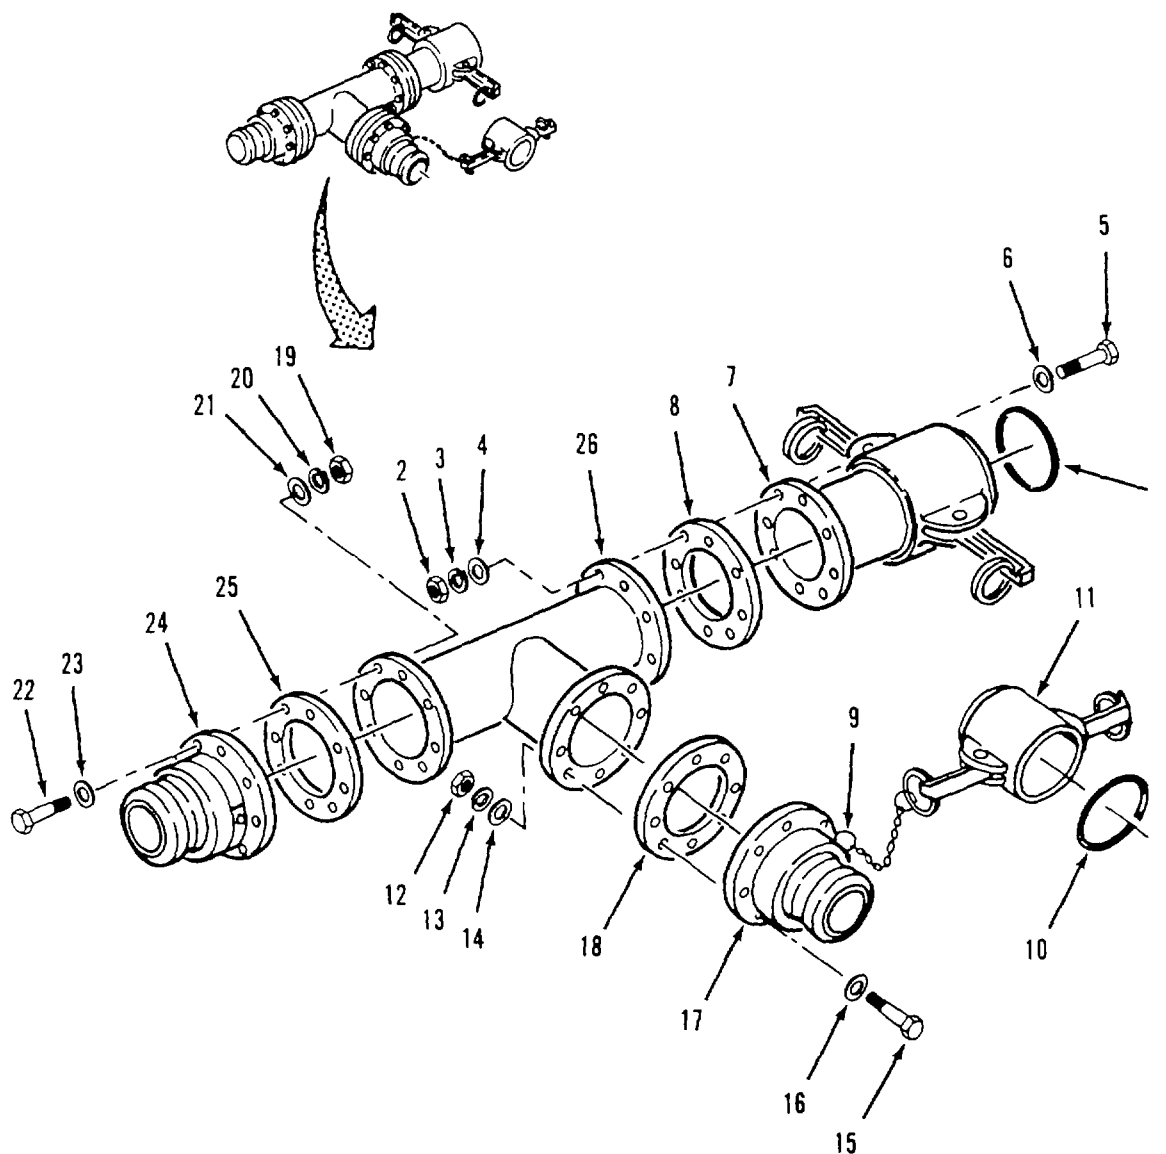

Figure 4-21. Tee Assembly (9112-Y2) Disassembly.
a. Disassembly. Refer to figure 4-21.
- (1) Remove gasket (1) from female coupling (7).
- (2) Remove eight nuts (2), lockwashers (3), flat washers (4) and screws (5) and flat washers (6).
- (3) Separate female coupling (7) and gasket (8) from tee (26).
- (4) Disconnect ring (9) from male coupling (17) and remove cap (11).
- (5) Remove gasket (10) from cap (11).
- (6) Remove eight nuts (12), lockwashers (13), flat washers (14), screws (15) and flat washers (16).
- (7) Separate male coupling (17) and gasket (18) from tee (26).
- (8) Remove eight nuts (19), lockwashers (20), flat washers (21), screws (22) and flat washers (23).
- (9) Separate male coupling (24) and gasket (25) from tee (26).